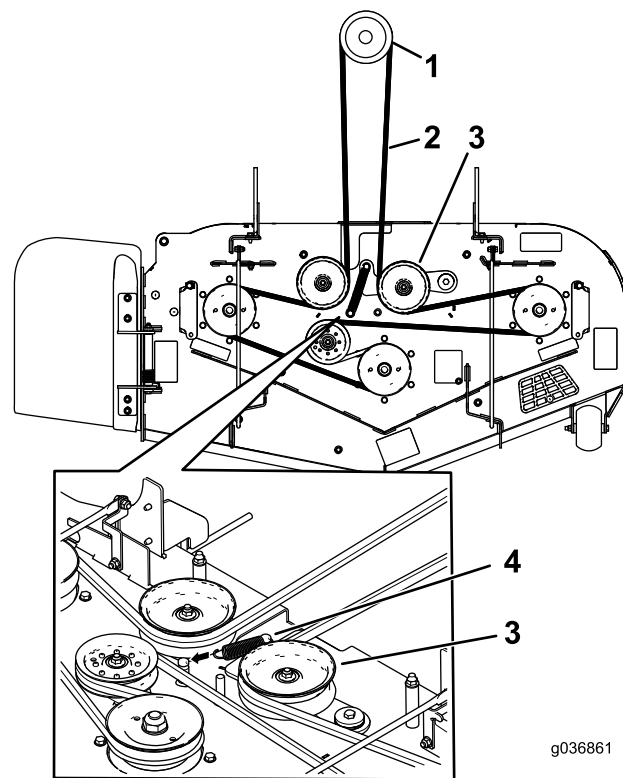

Figure 75
7. Install the new belt around the mower pulleys and the clutch pulley under the engine (Figure 75).
8. Install the idler spring (Figure 75).